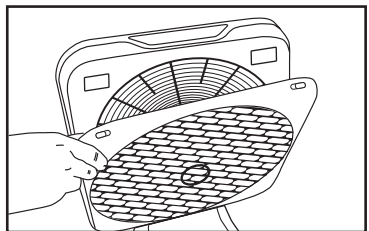

Fig. 15
2. Pull the grill away from the body until the tabs at the bottom of the grill plate easily slide away from the unit. See Fig. 15 & 16